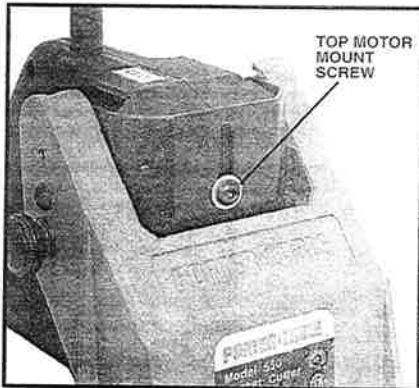

Fig. 2
2. Tilt motor unit down and loosen top motor mounting screw (see Fig. 2).